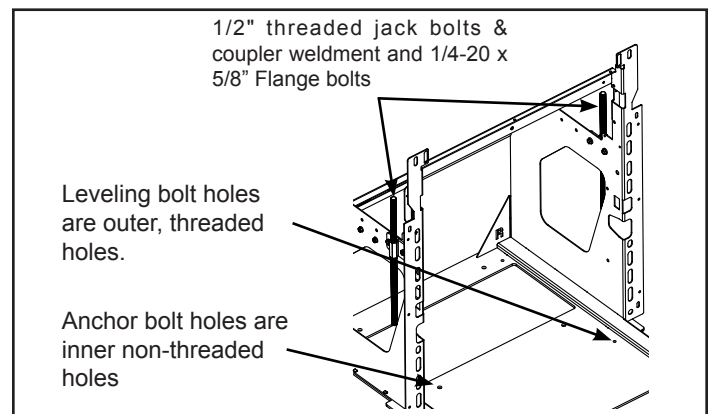

Figure 5.12
With the surround attached, install the coupler nut weldments to the frame in the hole location that suits your needs with the (4) 1/4-20 x 5/8 flange screws and nuts and 1/2" jack bolts. Install the (4) 5/16"-18 leveling bolts into the threaded holes in the bottom pan of the mounting frame, install the mounting frame into the opening and adjust these bolts to insure the frame is level. (**Note:** Use of all 4 leveling bolts may not be necessary.) Tighten the 1/2" jack bolts against the intel. See Figure 5.12.